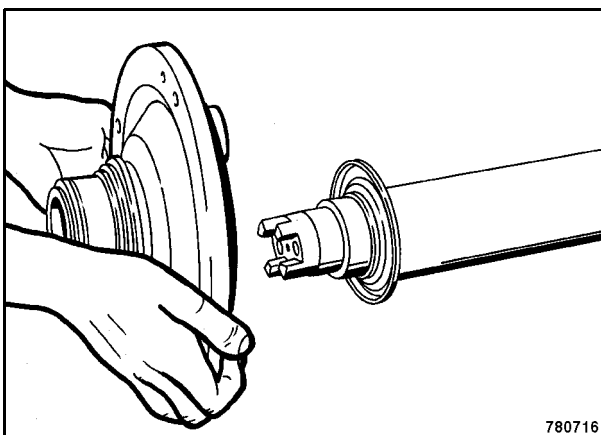

Fig. 7
10. Slide the bearing housing over the exciter shaft (Fig. 7).